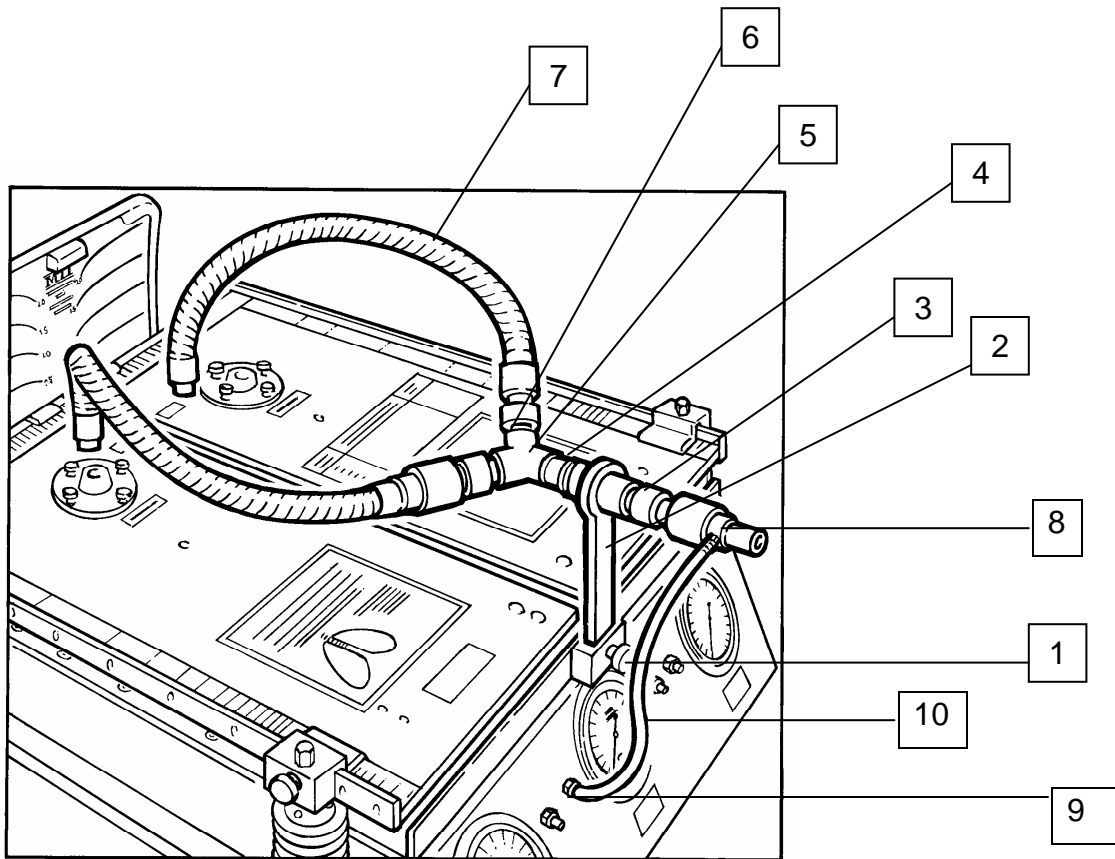

Figure 1—Dual-Lung Simulation
1. Loosen the rest knob (1) on the front of the TTL and insert the rest assembly (2) into the holder. Lock it in place by tightening the knob.
3. Connect the upper airway resistor (3) to the proximal (outward-facing) opening on the rest assembly.
4. Connect the 15mm straight connector (4) to the distal (lung) side of the rest assembly.
5. Attach the Y-adaptor (5) to the distal end of the straight connector.
6. Insert the lower airway resistors (6) into the Y-adaptor.
7. Connect one end of the hose assemblies (7) to the lower airway resistors and the other end to the lung inlet ports on the top plates.
8. Attach a single-outlet pressure pickoff adaptor (8) to the proximal end of the upper airway resistor, and connect this adaptor to the proximal pressure input port (9) using the 1/8 inch hosing (10) included with the accessories.
*Please see Figure 1 for display of Dual-Lung Simulation.*